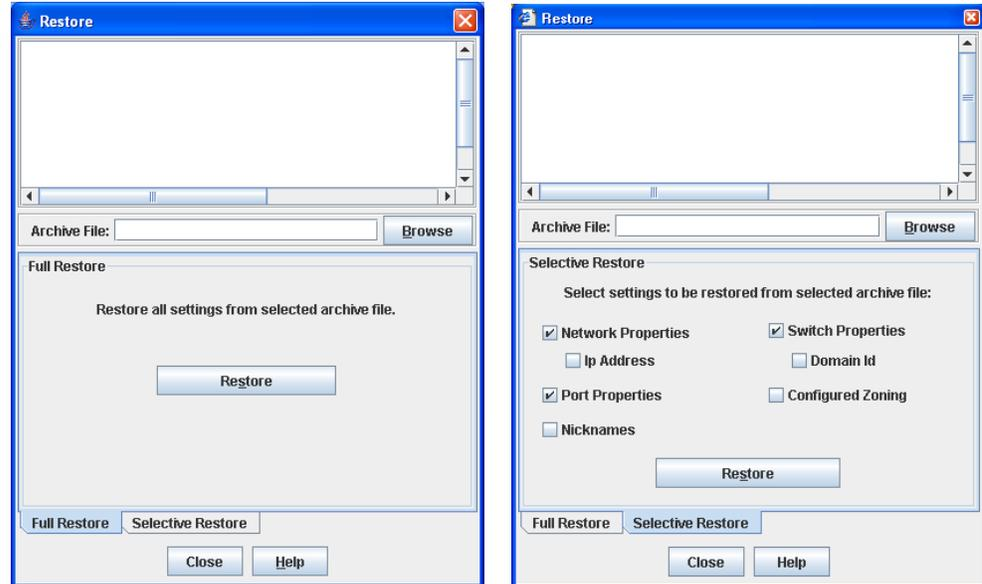

Figure 26. Restore Dialogs—full and selective
2. Open the Switch menu and select **Restore** to display the Restore dialog shown in Figure 26. The Restore dialog offers a **Full Restore** and a **Selective Restore** tab.